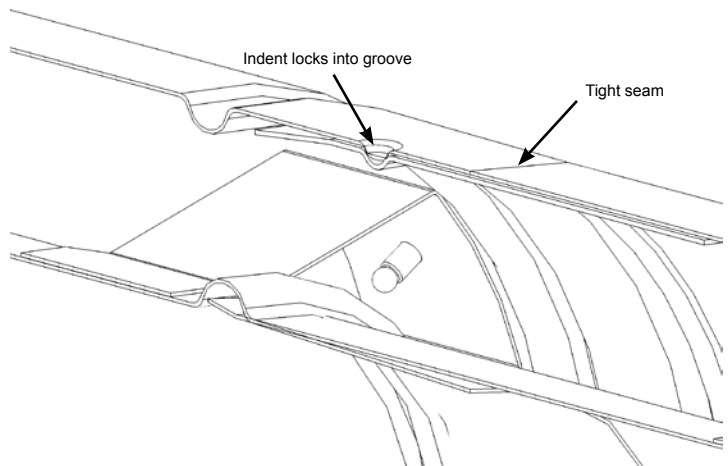

FIGURE 10
- The joint is not sealed unless the seam between the two outer sections of pipe is tight and the indent locks into the groove. See Figure 10.
4. The outer pipe sections should not have a visible gap. See Figure 10.